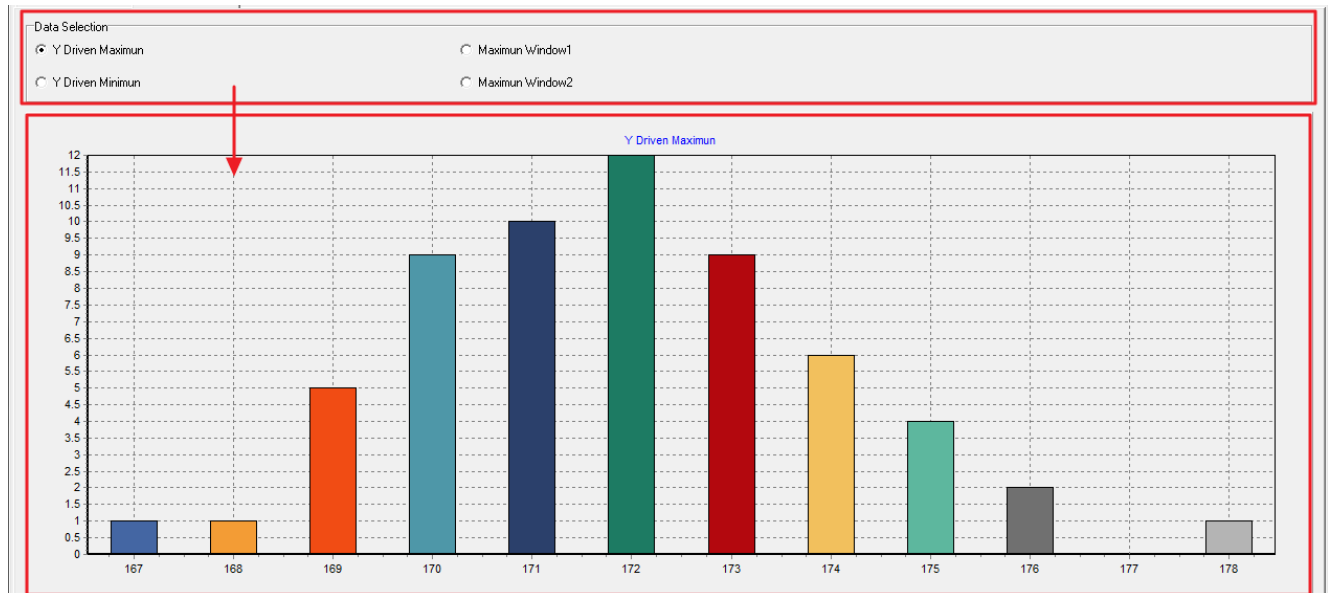

Figure 6-8: Summary Statistics
Step 1: "Data Selection" provides selection for different type summary results, statistics result shown in the chart (Figure 6-8). Figure 6-8 Describe summary type.